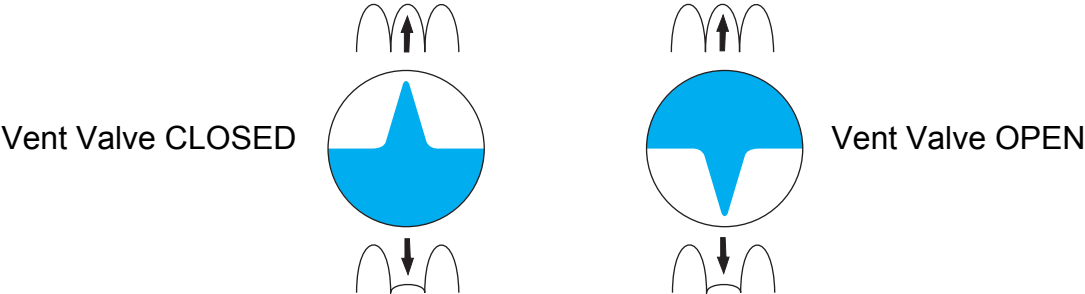

Figure 51 - Vent Valve Positions
- 30.3 Make sure that the Vent Valve is in the fully closed position (Refer to Figure 51).